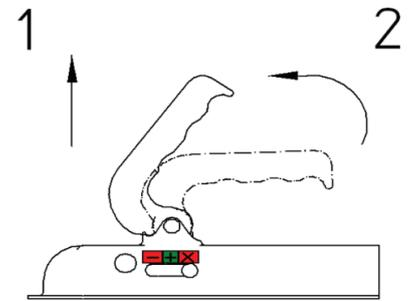

Figure 3:
- Press on the safety catch of the coupling device, pull the handle up, and then move in the direction 2 shown in Figure 3 until the device is uncoupled and released from the ball mount. Lift the coupling device slightly away from the ball mount, paying attention to the trailer weight - avoid potential injuries;